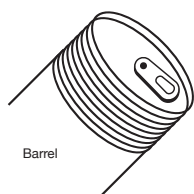

Figure 4
4. Push the grease cartridge into the barrel until the rim of the pull-tab end contacts the rim of the barrel (see figure 4). Then remove the pull-tab seal from the end of the grease cartridge.